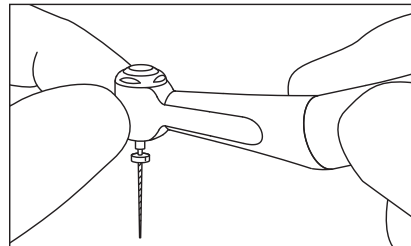

Fig. 4
- 4) After the handpiece rotation has completely stopped, touch the handpiece head to confirm the head is NOT heating abnormally (Fig. 4).